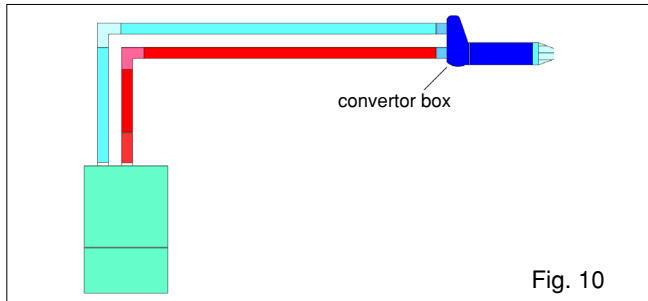

Fig. 10
- Insert the exhaust connection manifold (B) onto the appliance flue outlet and secure to the flue spigot using the screws provided.
- Remove the blanking plates (located to the left of the appliance flue outlet) and – using the same screws – install the air baffle (A).
4.5.3.2 HORIZONTAL TERMINATION (fig. 10)